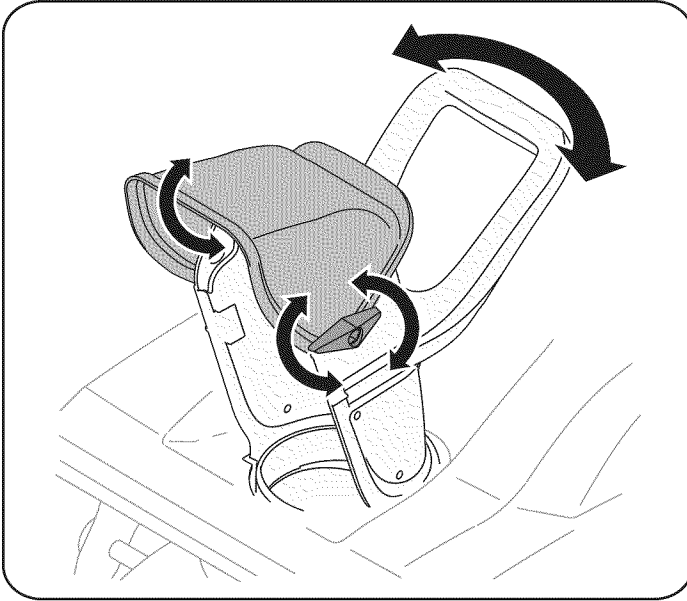

Figure 6
2. Position the chute assembly opening by using the chute handle to throw the snow in the desired direction. See Figure 6.